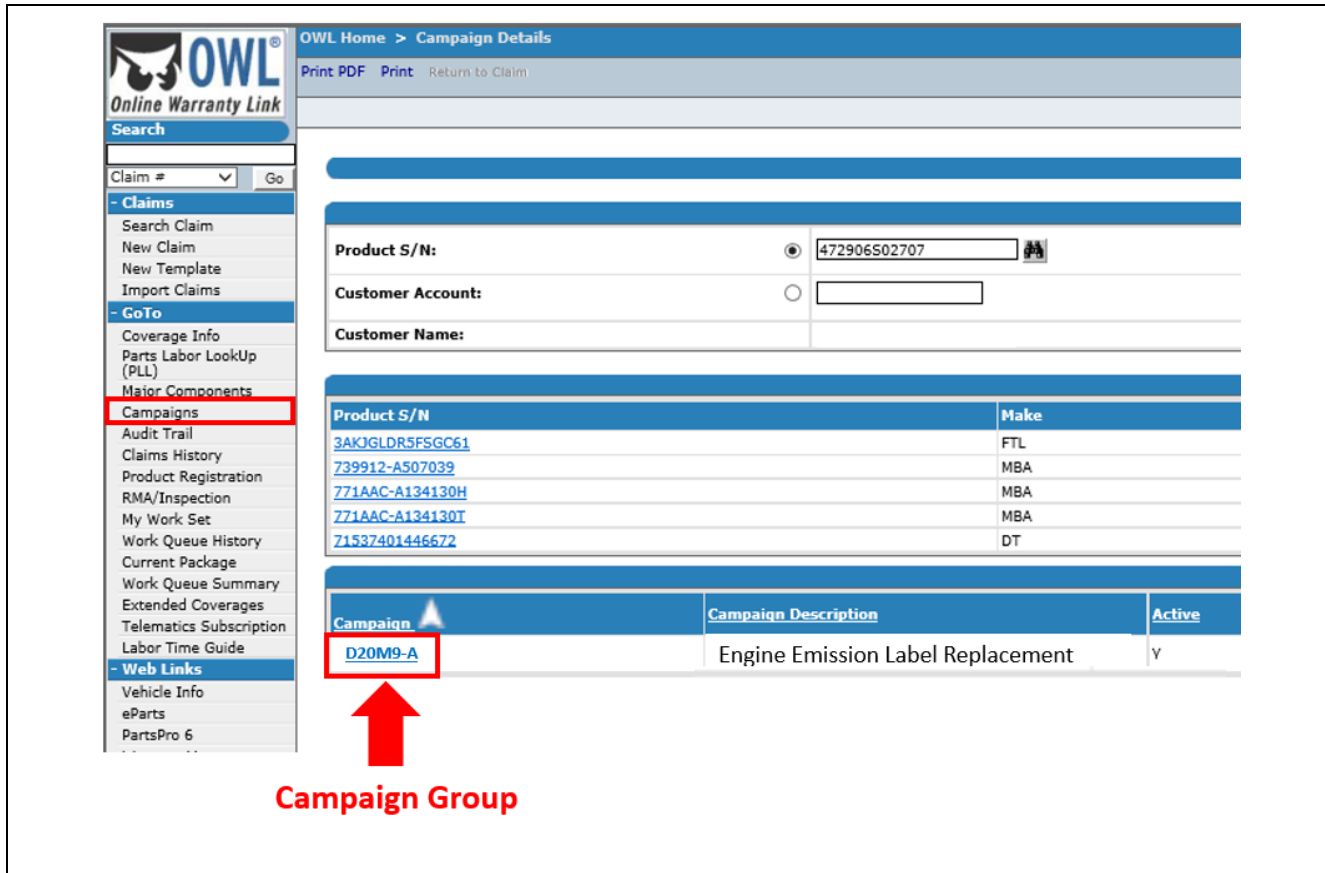

Fig. 2, Campaign Group
- 4. Refer to Online Warranty Link (OWL) system to determine which campaign group includes this vehicle. See Figure 2.